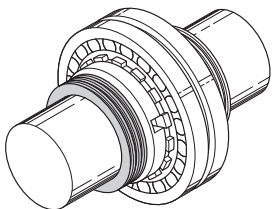

Fig. 20-11 Outer seal.
7. Slide the outer seal onto the shaft. Locate both the inner and outer seals to match the labyrinths in the housing (Fig. 20-11).